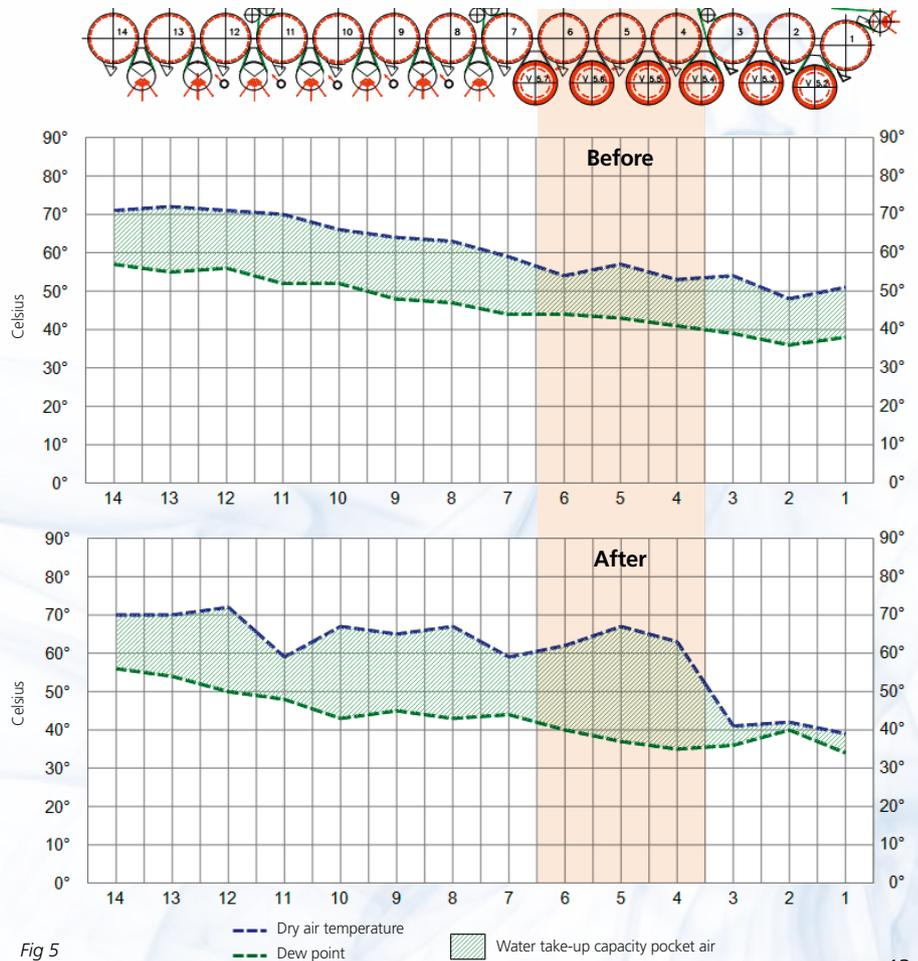

Fig 5
**Expansion of pocket ventilation = Air Doctors installed in pockets 4 – 6 (Fig 5)**